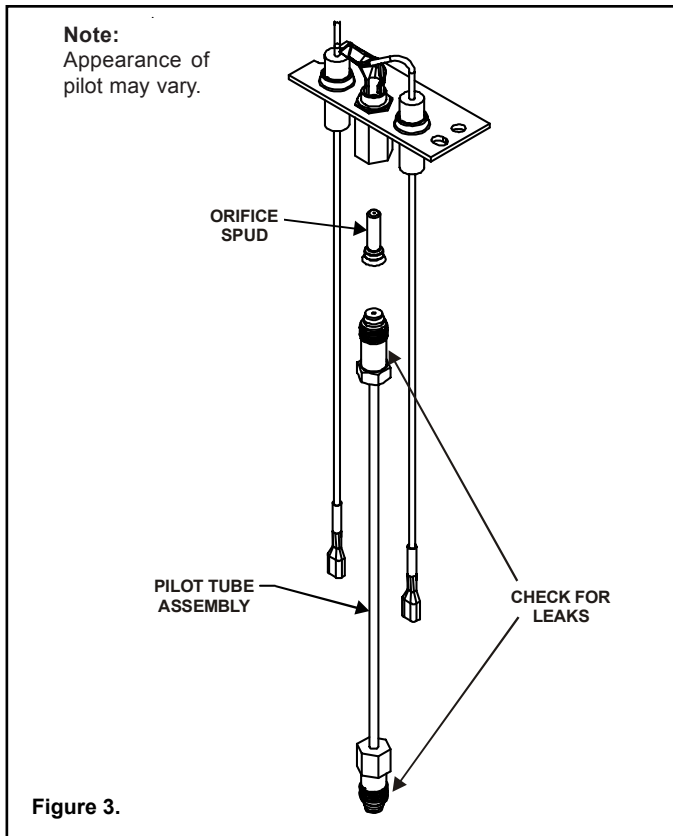

Figure 3.
8. Unscrew the pilot tube fitting on the pilot and replace the orifice spud with the one included in the conversion kit. See Figure 3.
- Use a commercially available, non-corrosive leak check solution to test for leaks around the pilot. Be sure to rinse off all leak check solution following testing. See Figure 3 for leak check points. Extinguish the pilot.